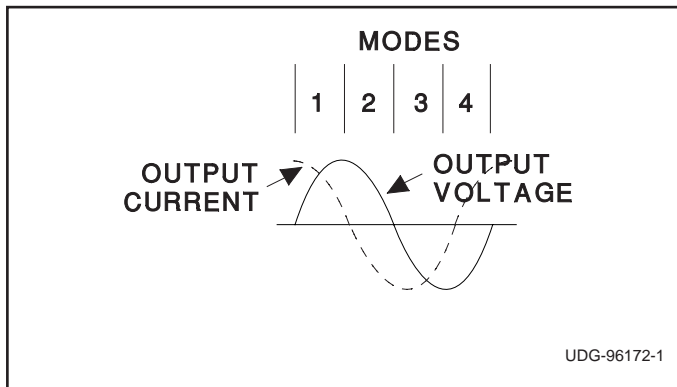
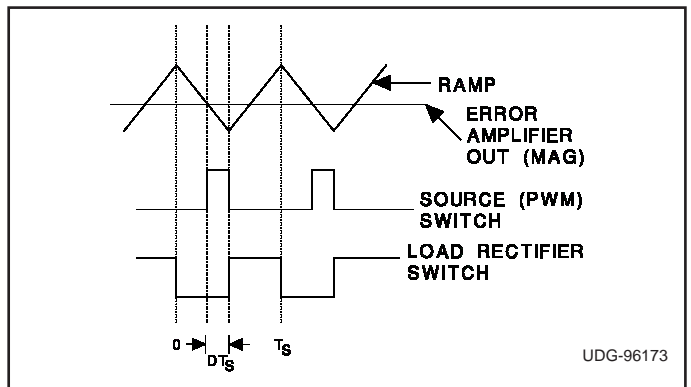
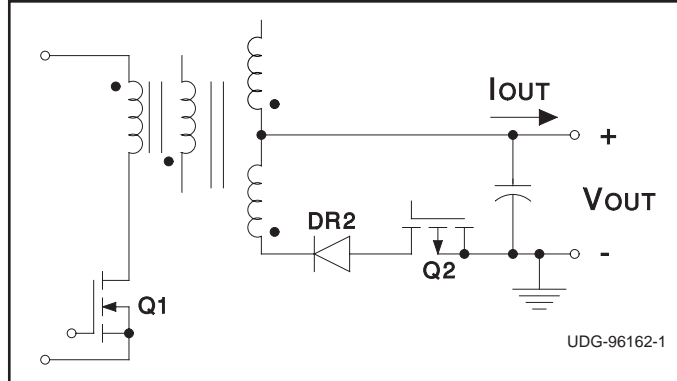

Figure 2. Operating modes.
Figure 3. Circuit waveforms.
Figure 4a. Mode 1: Forward power transfer, positive output.
**GD2:** Output driver that controls the p-channel secondary side switch in the flyback converter. The output signal on this pin is PWM during mode 4 (Fig. 2) when the reference signal is negative and power is being returned to the input. This pin functions as a synchronous rectifier output during mode 1 with positive reference signal and positive power transfer. This output is logically inverted to provide the correct polarity drive signal for a p-channel switch.
**GD3:** Output driver that controls the n-channel secondary side switch in the flyback converter. The output signal on this pin is PWM during mode 2 (Fig. 2) when the reference signal is positive and power is being returned to the input. This pin functions as a synchronous rectifier output during mode 3 with a negative reference signal and positive power transfer.
Different operating modes of the converter are depicted in Table 2. Fig. 2 shows the output voltage and current waveforms for a purely capacitive load and identifies the four operating modes. Fig. 3 shows the PWM waveforms for the circuit and Fig. 4a - 4d show the equivalent circuits under the operating modes. The addition of Q2, Q3 and primary diode facilitates true four quadrant operation where both the output voltage and power transfer can be bi-directional. Mode 1 is similar to the commonly used
Even though the DC current is typically sensed in the secondary, the current limit is applied to the active PWM switch at the time. For example, if Q1 is the PWM switch and DCLIM is activated, the UCC3750 will prevent turn-on for Q1 during the negative slope of the ramp (Fig. 2). The DC limit is functional on a cycle-by-cycle basis.